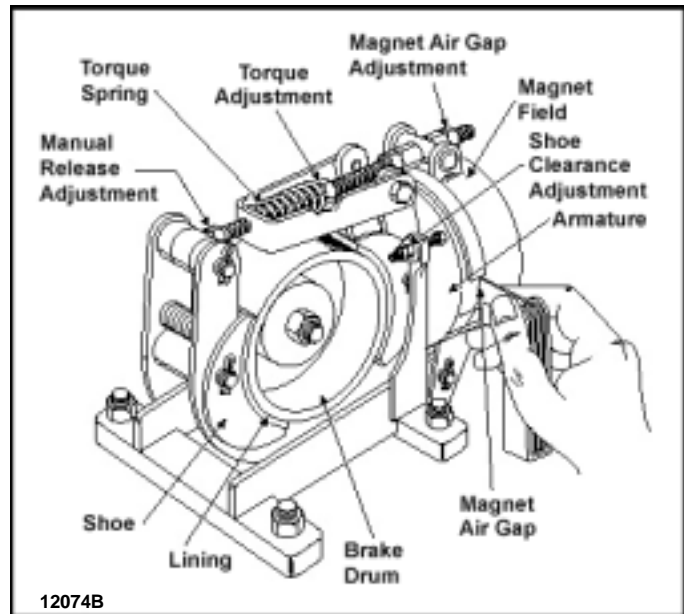

Figure 8-4. Typical Shoe Brake.
The brake, as shipped with the trolley, has been adjusted for the proper torque, magnet air gap and shoe clearance. As linings wear through usage of the brake, magnet stroke increases and brake action becomes sluggish. Refer to Figure 8-4 (while the two brakes are not identical, they are similar) in making the following adjustments.
(1) Magnet Air Gap Adjustment. For the 10" brake set magnet air gap adjustment nuts so that top of armature will move 1/8" (3.175 mm) toward magnet when brakes operate. As shown in Figure 8-4, clearance with feeler gauge at midpoint of armature should be approximately 1/16" (1.58 mm). The 13" has an indicator fitted to the top of the magnet to which the gap should be set.
(2) Shoe Clearance Adjustment. For the 10" brake clearance between brake shoes and drum is equalized at time of installation and checked whenever brake shoe travel is adjusted. Readjustment if necessary, is accomplished by setting stop screw so that shoes clear the wheel equally on each side, approximately 1/32" (0.79 mm). The 13" brake has a shoe equalizer stud at the base.
(3) Torque Adjustment. For the 10" brake, braking torque can be adjusted by varying the compression of the torque spring by a self locking nut.